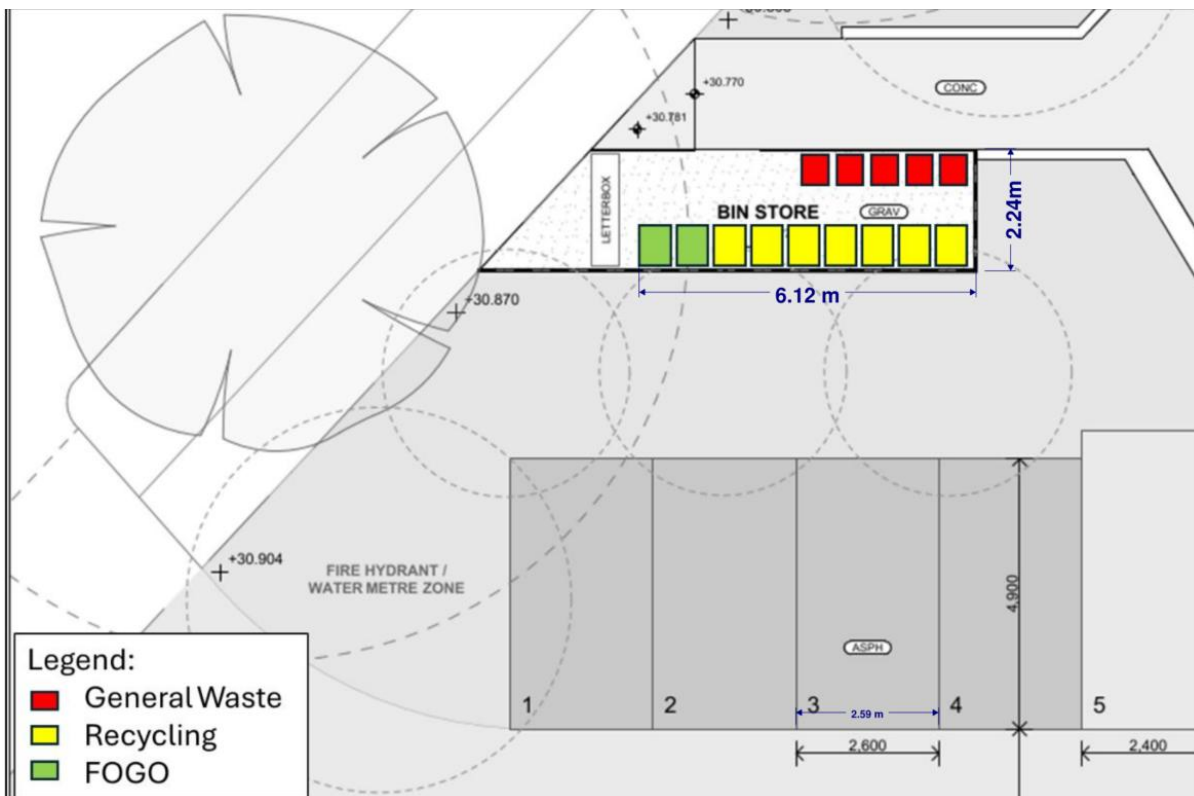

Figure 2 Site plan highlighting Waste room location
- The development bin storage area will allow for assorted disposal of general waste, recycling, Food and Garden waste (FOGO) in-line with Clause 55.05-5 requirements. Refer to *Figure 2* below shown in the architectural drawings.
- Shared bin storage area to be at least 7m² in area and have a minimum depth of 1m and minimum height of 2.7m, as required by Table B5-5.2 Apartment Bin Storage. Refer to *Figure 2* below showing the bin storage area meeting this requirement.